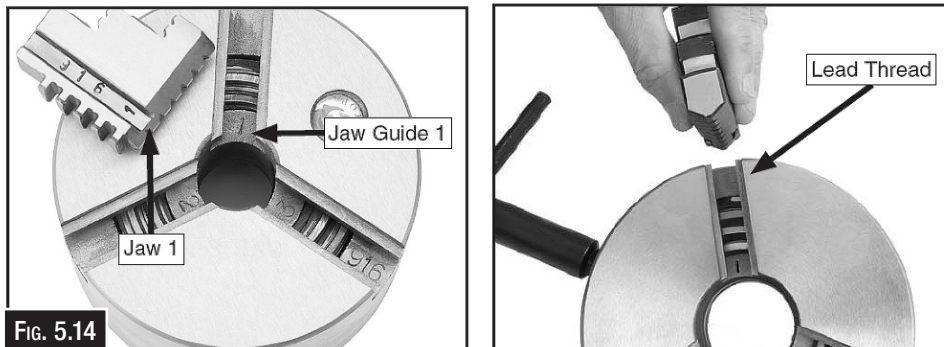

FIG. 5.14
### Changing Jaws on 3 Jaw Chuck (Fig. 5.14)
7. Slide the #1 jaw into the #1 jaw guide and hold it firmly against the scroll gear threads, then rotate the chuck key clockwise approximately one turn until the lead thread engages with the jaw. (Fig. 5.14)